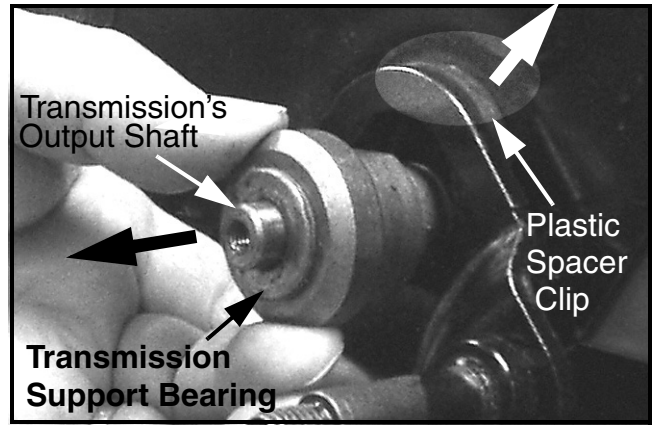

FIGURE 13
32. On the LH side, slide the transmission support bearing off of the transmission's output shaft and discard. Remove and discard the plastic spacer clip. See Figure 13.